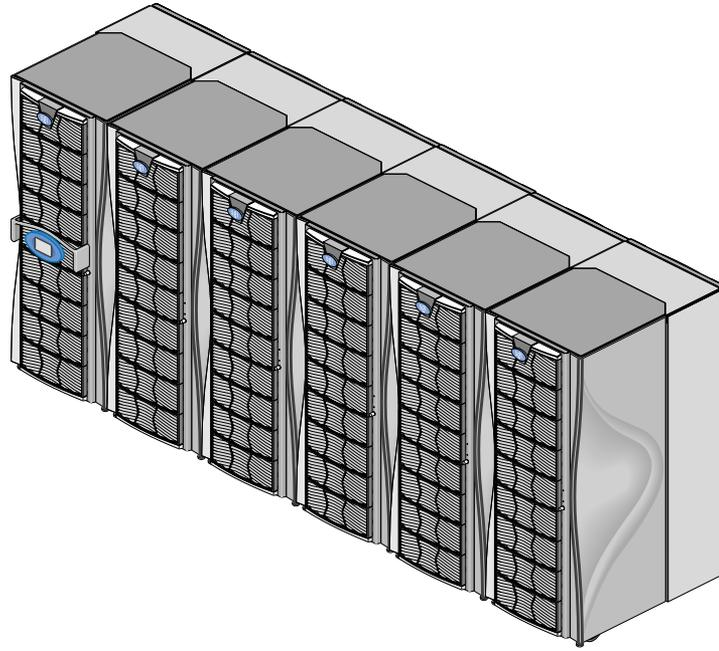

Figure 2-1 512-processor Origin 3900 Server
- The Origin 3900 server uses a new packaging scheme that offers four times the processor/memory density over the other Origin 3000 series servers. The Origin 3900 can have up to 128 processors and 256 GB of memory in a single rack; thus, enabling you to have a high-productivity supercomputer in a smaller footprint. For example, a 512-processor Origin 3800 server requires 16 compute racks. An Origin 3900 server that has 512 processors requires only 4 compute racks and 2 router racks (see Figure 2-1).